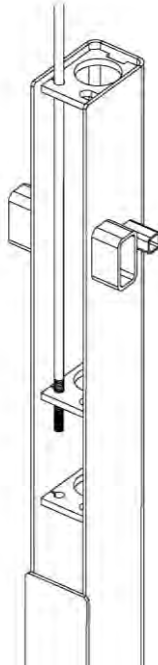

Figure 15: Cable routing
10. Insert the threaded stud into the 5/8” dia. hole in the mounting bracket second from the top of the carriage. (**Figure 15**).